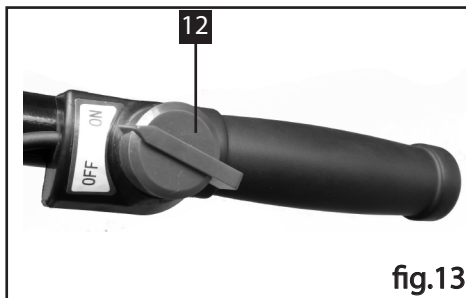

fig.13
3) Push below switch to the "ON" position. (Fig. 13)
Push the Engine switch to the "OFF" position. (Figure 13)